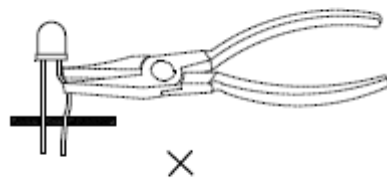

Fig. 7
4. During lead forming, use tools or jigs to hold the leads securely so that the bending force will not be transmitted to the LED lens and its internal structures. Do not perform lead forming once the component has been mounted onto the PCB (Fig.7).